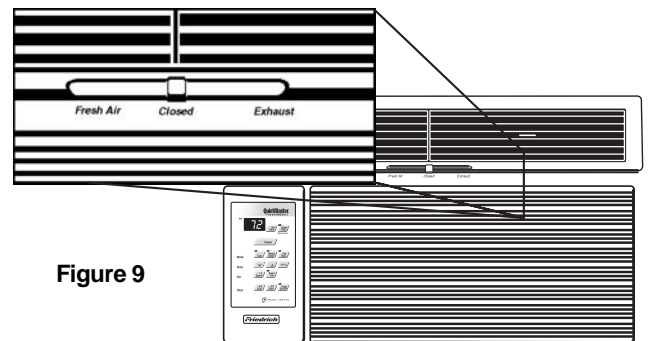

Figure 9
- 3 **FAN ONLY** - Press the *Fan Only* button if you want to run the fan only. You may want to use this feature in conjunction with the *Fresh Air/Exhaust* if you want to bring outside air into the room, or exhaust stale air. (The FRESH AIR/ EXHAUST feature is located on the front of the air conditioner near the top. See Figure 9 on page 7.)
The **Fan Only** setting can also be used with the **Exhaust** air setting to remove stale air or smoke from the room; or it can be used with the **Fresh Air** setting to bring outside air into the room. This is especially useful in the spring and fall when cooling may not be necessary. The **Fresh Air** and **Exhaust** controls are in the upper air discharge area. The center position of this control is the normal, or closed position, which recirculates air for maximum performance in the cooling mode (See Figure 9).
The **Fresh Air** and **Exhaust** controls are in the upper air discharge area (see Figure 9, page 7). The center position of this control is the normal, or closed position, which recirculates air for maximum performance in the cooling mode.
Your air conditioner has the ability to bring fresh air into the room or exhaust stale air out of the room. The control lever is found on the upper part of the unit (See Figure 9).